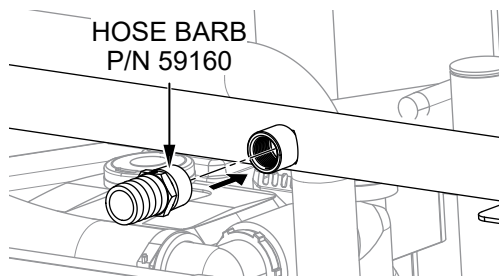

Figure 3. Install Hose Barb
2. Using a 1-1/16" wrench, install the **hose barb** (P/N 59160) in the same location (Figure 3).